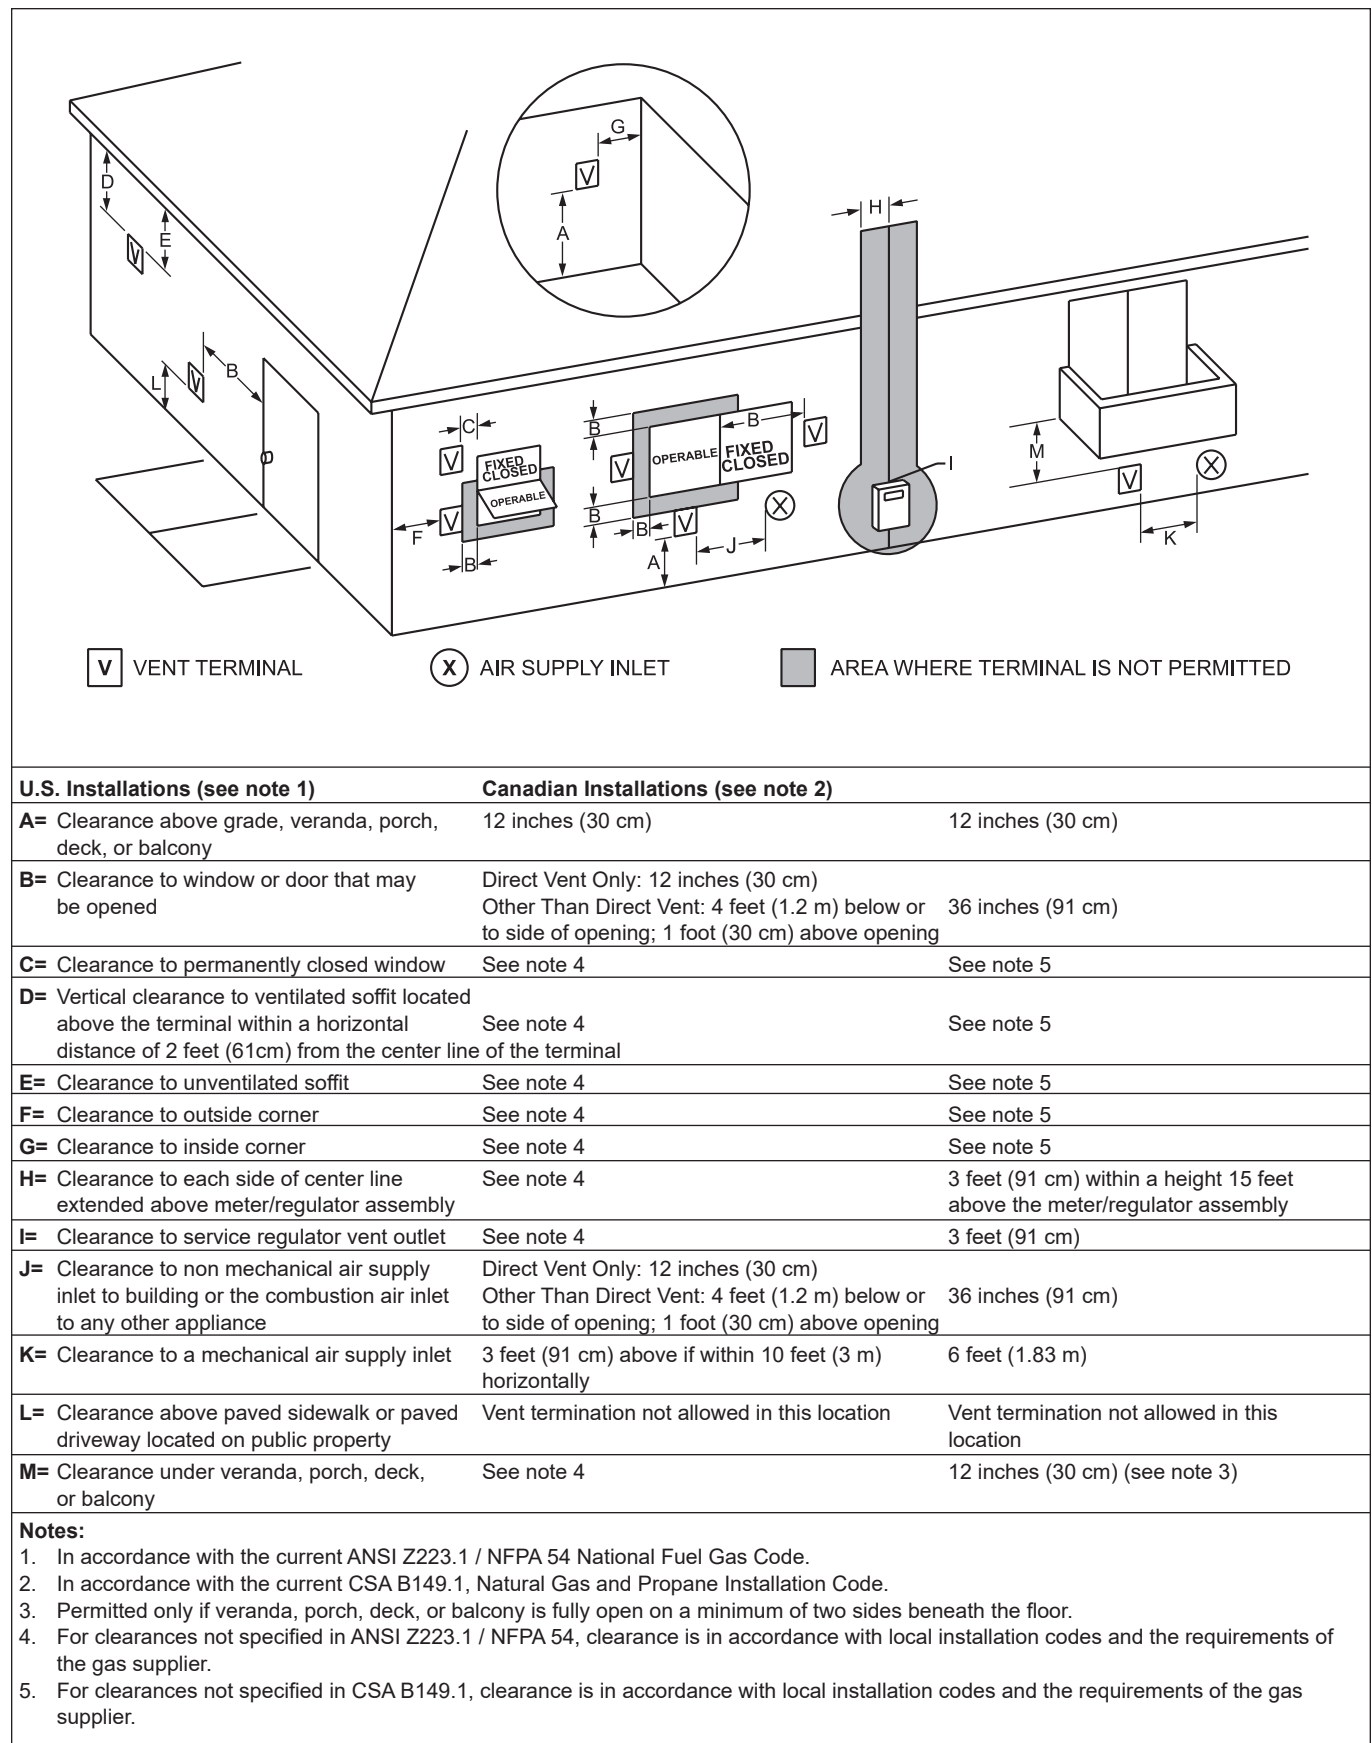

Figure 4. Vent Terminal Clearance.
1. Figure 4 shows the requirements for mechanical vent terminal clearances for the U.S. and Canada.
4. If the Brute Deluxe is side-wall vented to the same wall, locate the vent terminal at least 3 feet (0.9m) horizontally from the combustion air terminal, and locate the vent terminal at least 1 foot (0.3m) above the combustion air terminal (see Figure 4).